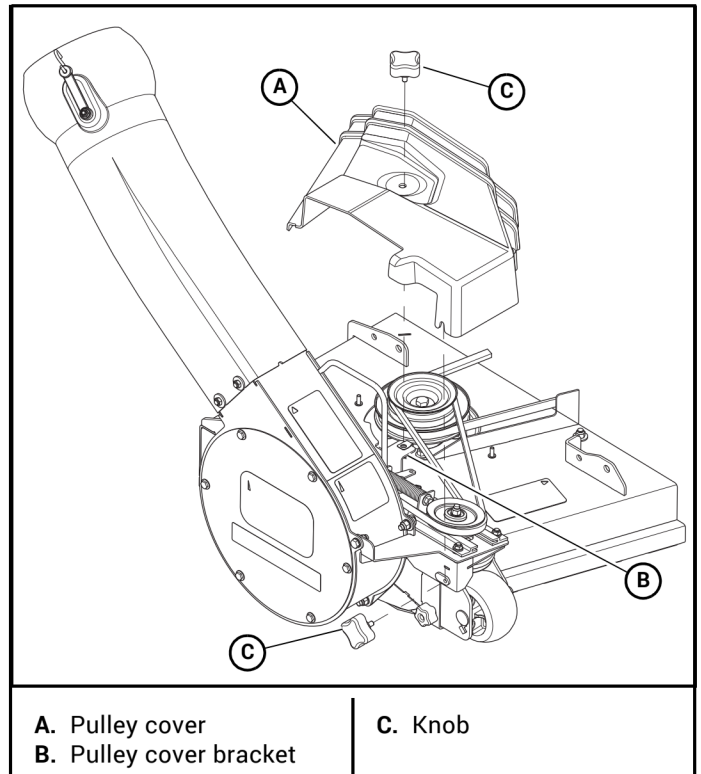
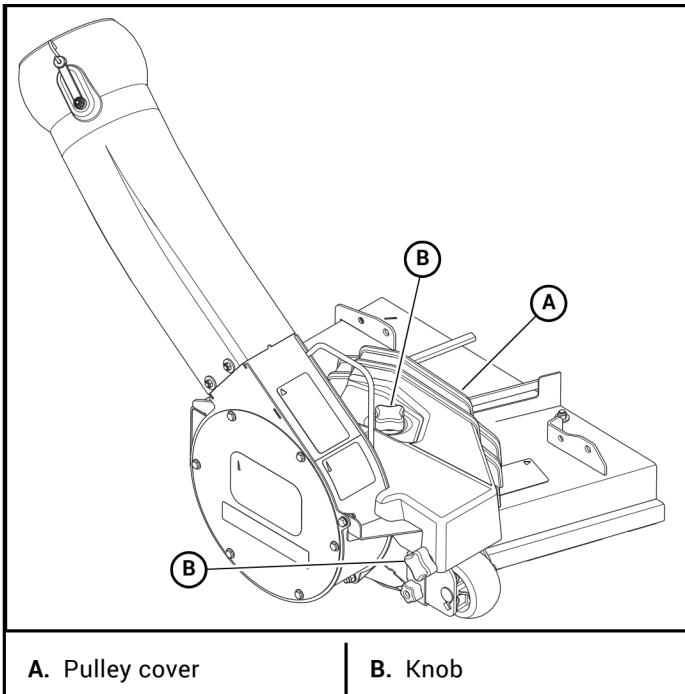

Figure 3-29
Figure 3-30
37. Attach the pulley cover as shown. Figure 3-29 & Figure 3-30